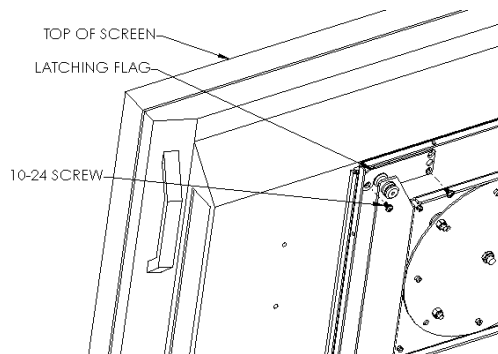

Figure 5
4. Place Latching Flags over buttons and secure using 10-24 Phillips head cap screws. Use 10-24 undercut security screws and security hex key instead of Phillips screws for added security. (See Figures 5 & 6).